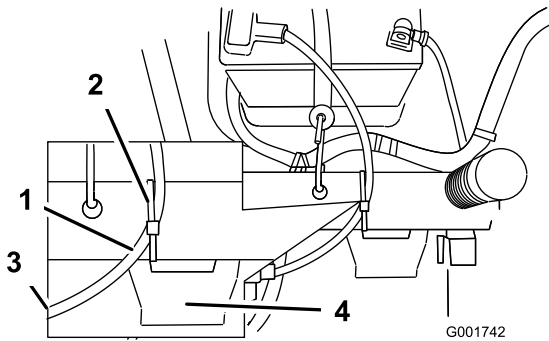

Figure 3
1. Install the battery in the machine and connect the battery cables using two bolts (1/4 x 3/4 inch), two washers, and two nuts (1/4 inch). Route the battery cable from the positive battery post to the solenoid. Ensure the cable is routed above the crossbar and between the seat supports as shown in Figure 3.